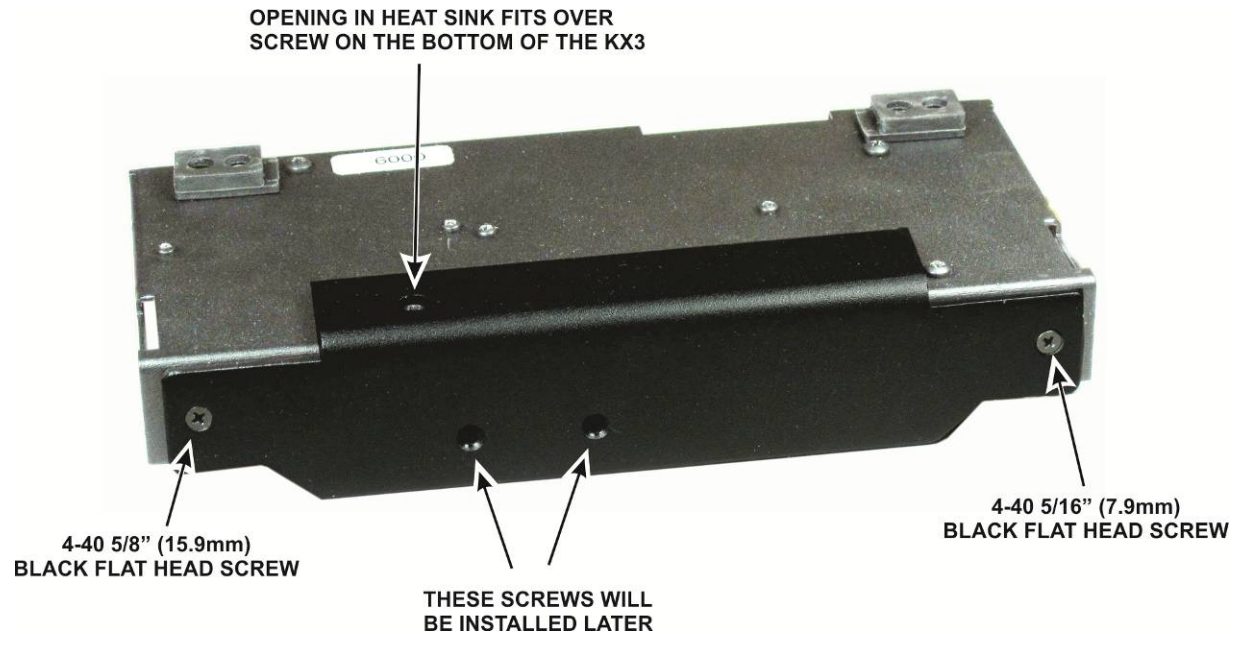

Figure 38. Mounting the Heat Sink on the Bottom Cover.
□ Place the KX3 bottom cover assembly upside down as shown in Figure 38. Attach the cover with the black flat head screws as shown. Carefully place the heat sink on the enclosure and secure it with the screws shown. The thermal pad presses against the powder coating on the bottom cover. Although the thermal pad is tacky, the heat sink can be moved as needed to align the screw holes.